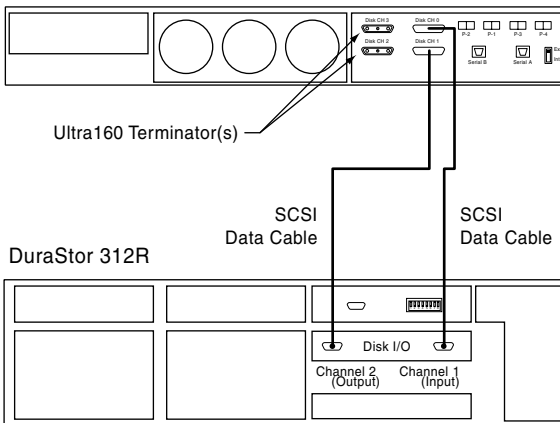

Figure 3-21 2–12-Drive Cabling Diagram
- Connect the DuraStor Fibre Channel-to-SCSI RAID appliance to the DuraStor 312R using SCSI data cables as shown in Figure 3-21.